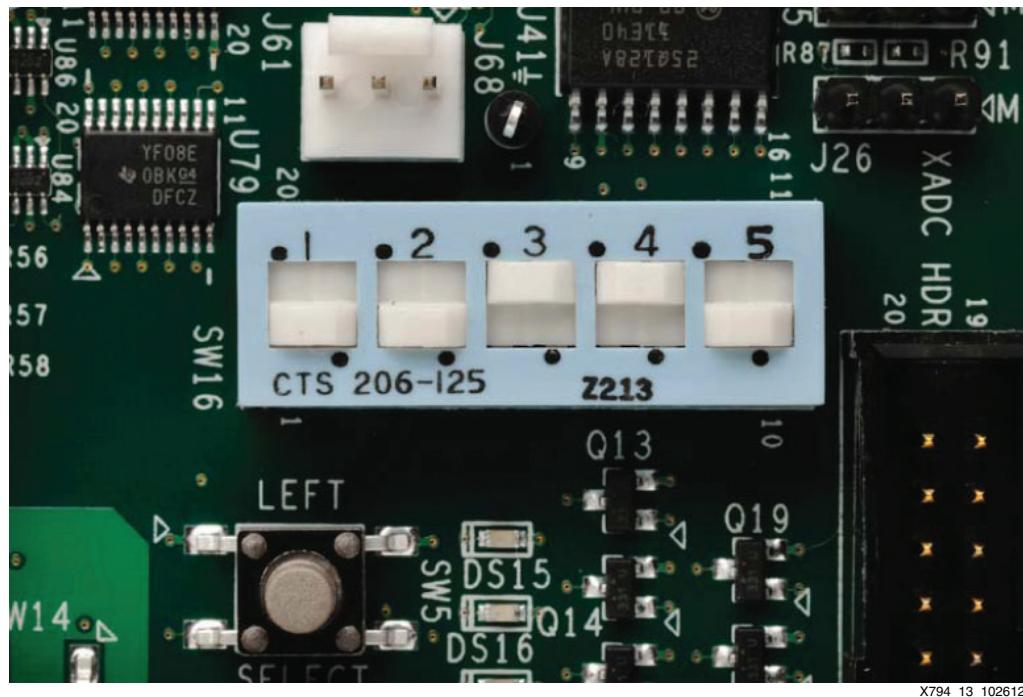

Figure 13: Switch Settings for the SD-MMC Card Boot Mode Switch
9. Ensure that the switches are set as shown in Figure 13, allowing the ZC702 board to boot from the SD-MMC card.